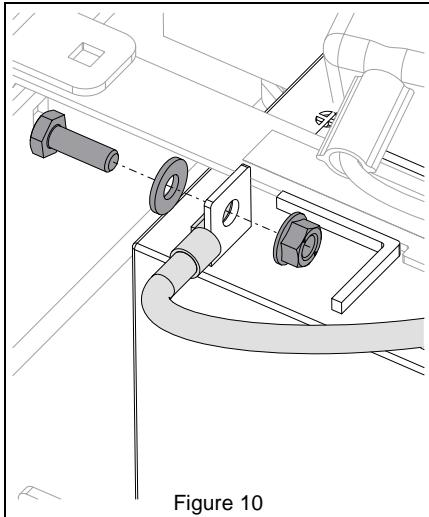

Figure 10
2. Secure negative battery cable to the negative battery terminal using hardware removed in step 1. See Figure 10.